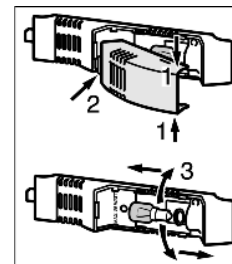

Fig. 6
- ▶ Take hold of the lamp cover at the top and bottom *Fig. 6 (1)*.
- ▶ Disengage the lamp cover at the back and detach it *Fig. 6 (2)*.
- ▶ Replace the bulb *Fig. 6 (3)*.